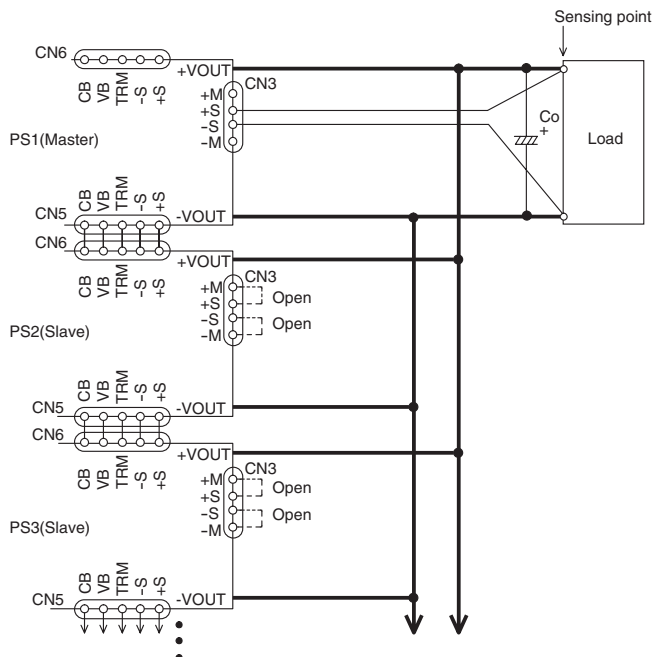

Fig.5.2 Examples of parallel operation
■ Parallel operation is available by connecting the units as shown in Fig.5.2.